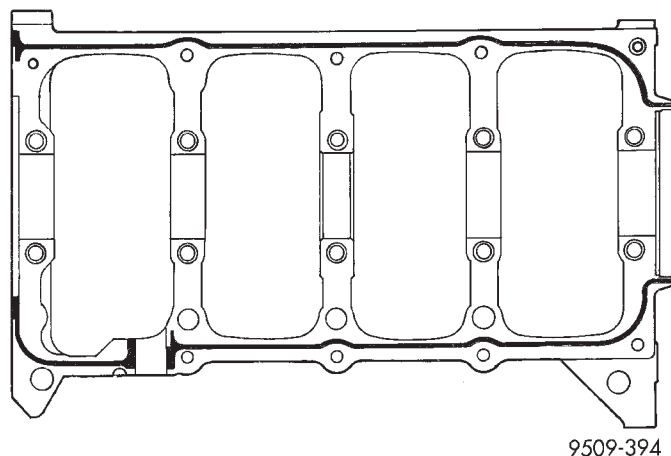

Fig. 13 Main Bearing Caps/Bedplate Sealing
- (4) Apply 1.5 to 2.0 mm (0.059 to 0.078 in.) bead of anaerobic sealer Mopar Torque Cure Gasket Maker to cylinder block as shown in (Fig. 13).